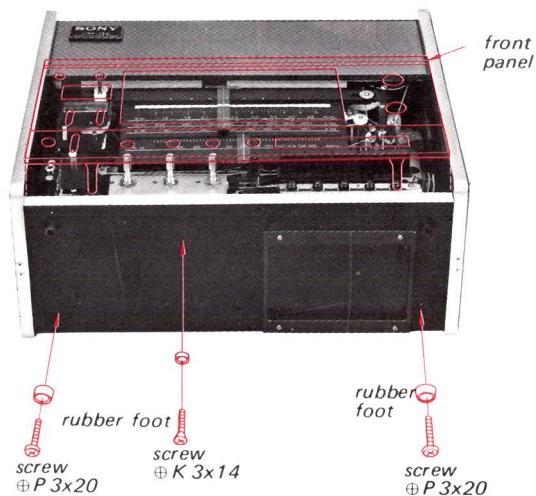

Fig. 2-4
6. Now, the front panel is removable as shown in Fig. 2-4.
7. Remove the three screws and two rubber feet as shown in Fig. 2-4.